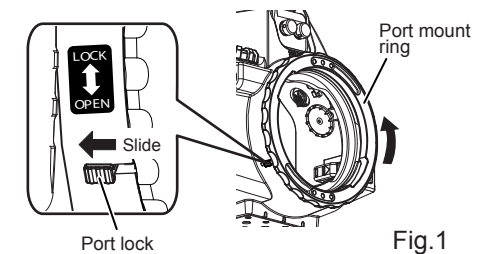

Fig.1
- 1 Release the port lock on the RDX housing (front case) by sliding it in the direction of the arrow as shown in the diagram, and rotate the port mount ring toward OPEN (in a counterclockwise direction) until it stops (Fig.1)
- 1 Release the port lock by sliding it in the direction of the arrow, and rotate the port mount ring toward OPEN (in a counterclockwise direction) until it stops (Fig.1)